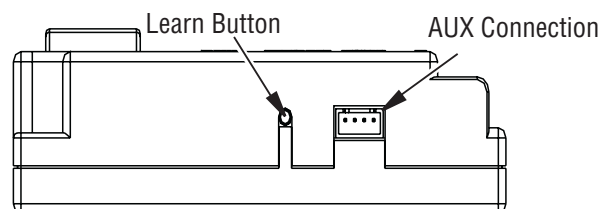

Figure 27 - Gas Module Left Side
1. There is a switch located on the right side of the module that reads REMOTE/OFF (Figure 27).
- To program the module (make sure the system has power), locate the learn button on left side as shown in Figure 27, page 15. Press and release the learn button. There will be a beep sound from the module. Then press any button on the remote transmitter. Once the module's internal receiver accepts the transmitter code, there will be a series of confirming beeps.